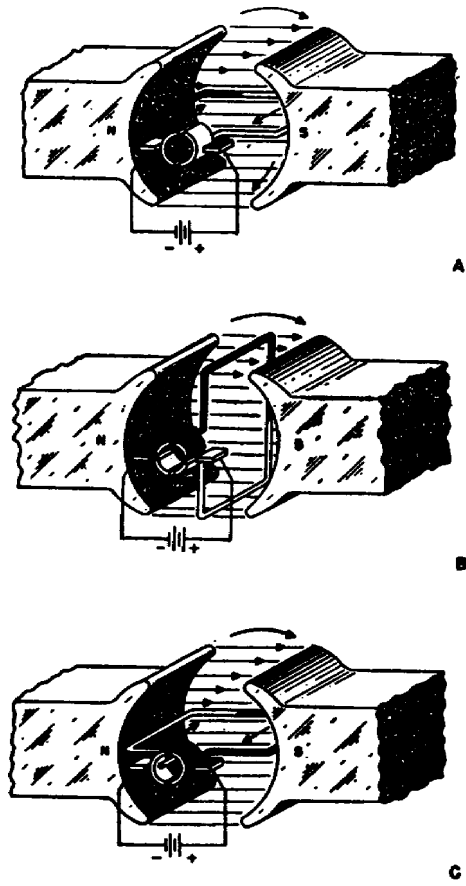

Figure 2. Armature loops.
g. In figure 2 we have added commutator bars and a larger field. In view A the left half of the loop is shown in black with an arrow to show the current is flowing from its commutator bar to the loop. The right side loop is pictured in white with an arrow showing the current flowing from it to its commutator bar. With battery current supplied through the brushes to the commutator bars, the loop would be forced to rotate clockwise. When the loop reaches and just passes the position shown in view B, look what happens. The commutator bar for the black half of the loop is now in contact with the positive (+) brush. The commutator bar connected to the white half of the loop is now in contact with the negative (-) brush. We have reversed polarity in the loop and it will continue to rotate clockwise. When it rotates another 1/2 turn (180°), it will again reverse polarity and continue to rotate clockwise.